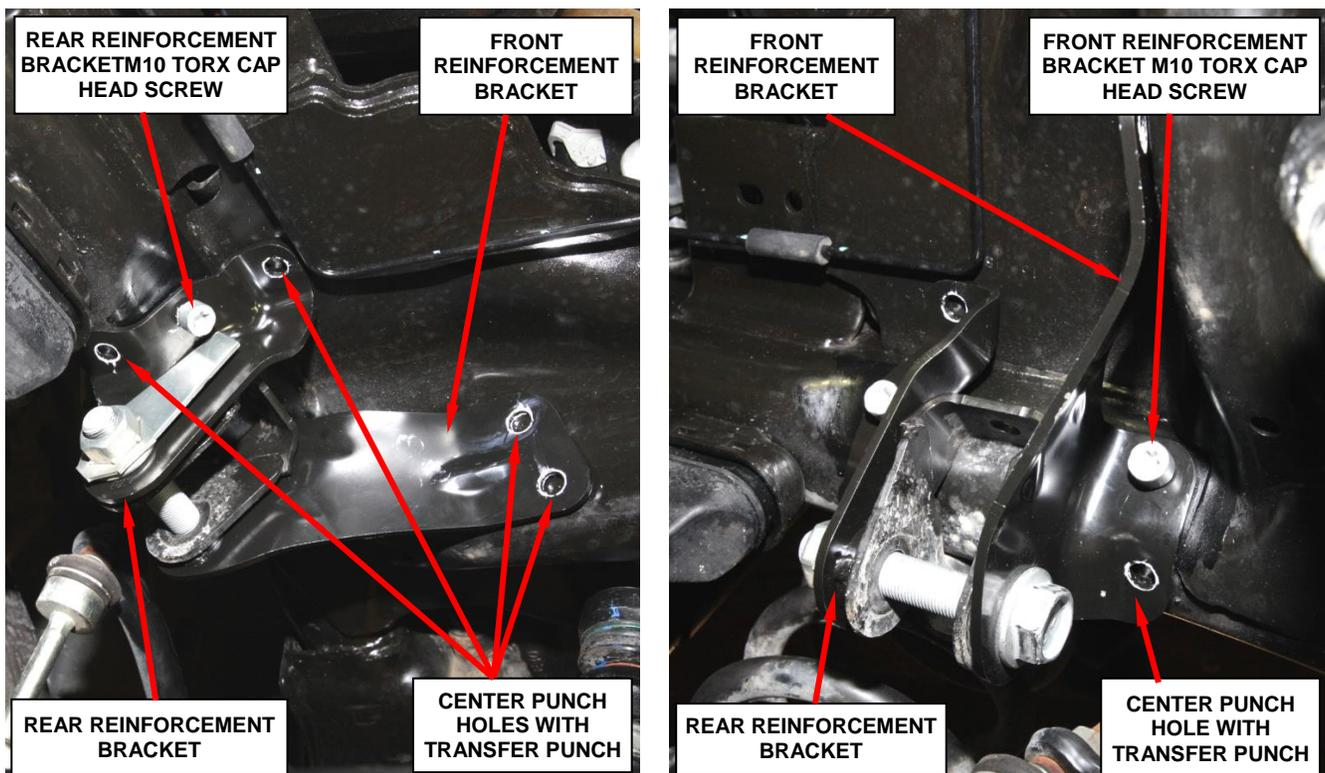

Figure 39 – Center Punch All Remaining Track Bar Reinforcement Bracket Holes
20. Using the correct size transfer punch, center punch all of the remaining holes on the front and rear track bar reinforcement brackets (Figure 39).